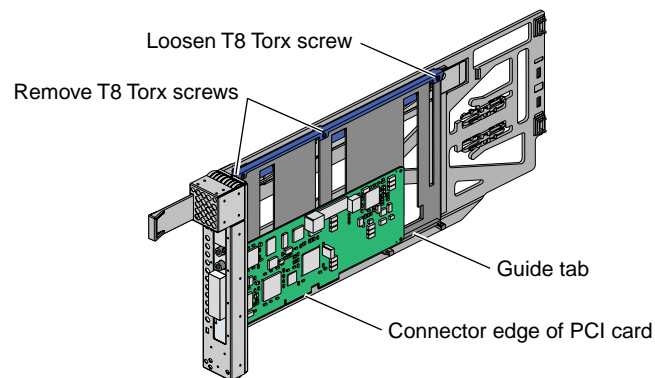

Figure 6-19 Mounting Half-height PCI Card into Carrier
- a. Remove the two screws from the carrier guide bar, as shown in Figure 6-19.
- c. Place the half-height PCI card in the carrier so that the connector edge of the card rests against the lower guide tab of the carrier (see Figure 6-19).